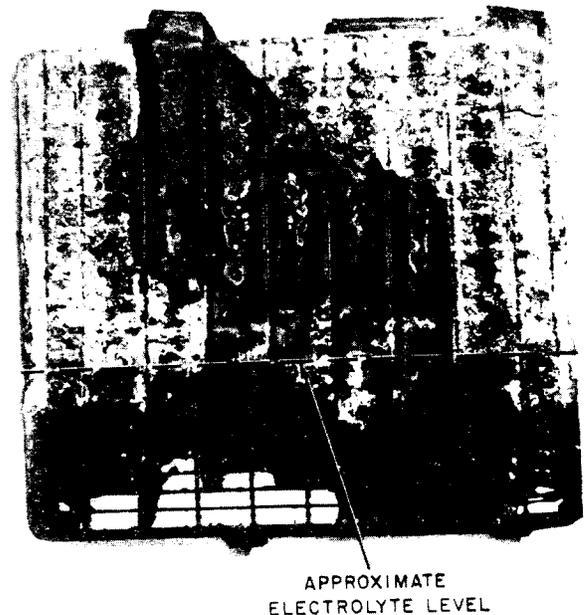

Fig. 5—Plate Damage Caused by Low Electrolyte Level
3.05 Low electrolyte level shortens battery life and causes poor performance. The active plate material above the electrolyte level becomes hardened and chemically inactive, while the plate material below the electrolyte level deteriorates more rapidly because of the higher concentration of acid. A plate damaged by low electrolyte level is shown in Fig. 5. Overfilling causes loss of electrolyte and excessive corrosion of terminal posts and cell covers. Loss of electrolyte results in poor performance and early failure.